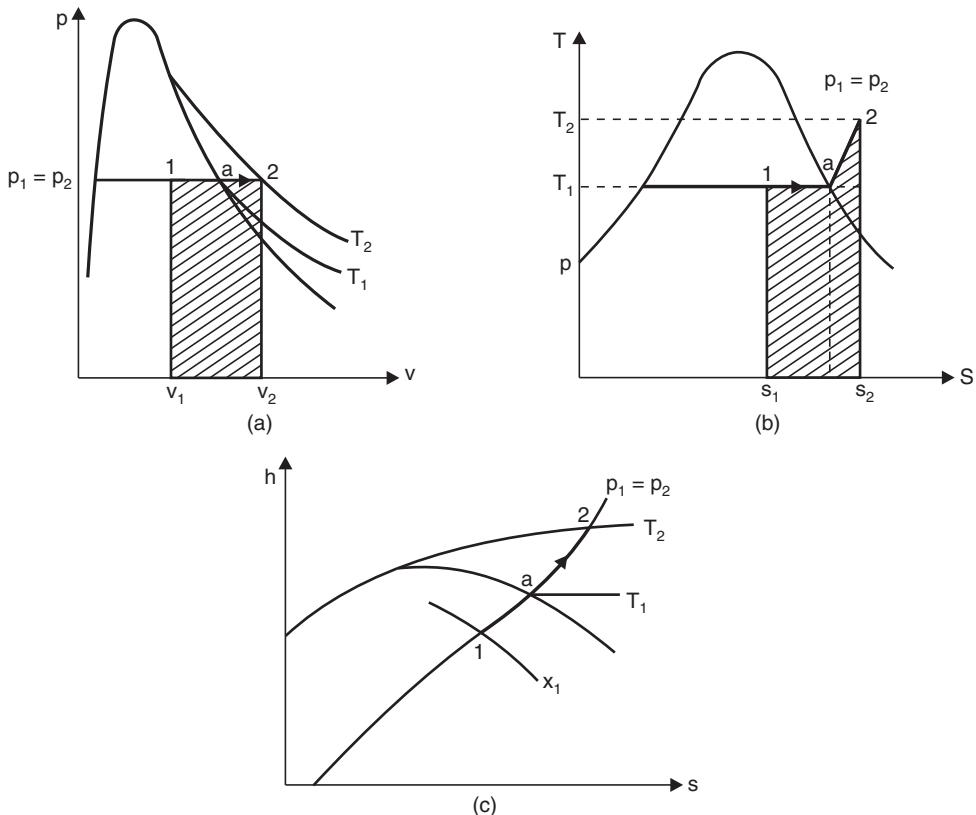

Fig. 2.56. Constant pressure process.
**2. Constant pressure Heating or Cooling.** Fig. 2.56 (a), (b) and (c) shows the constant pressure heating process on  $p-v$ ,  $T-s$  and  $h-s$  diagrams respectively.